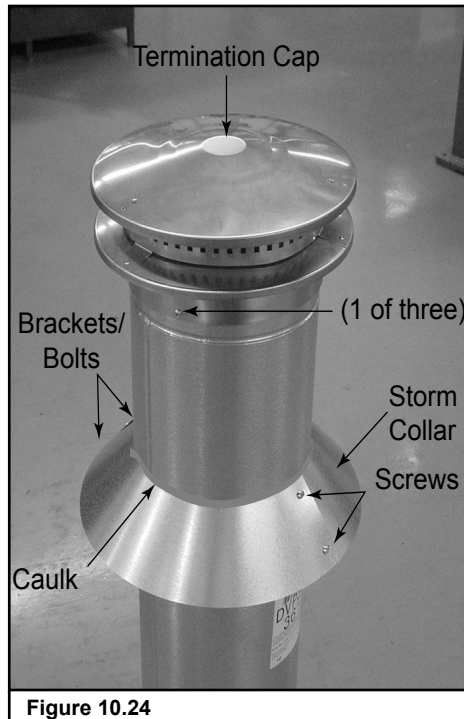

Figure 10.24
- Caulk around the top of the storm collar (see Figure 10.24).
- Secure the cap by driving three self-tapping screws (supplied) through the pilot holes in the outer collar of the cap into the outer flue of the pipe (see Figure 10.24).